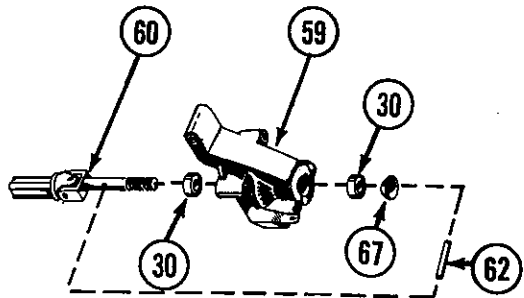

FIG. 26
14. Press two 3/16" x 3/8" bearings (30) into both sides of hub carrier (59). Fig. 26.
15. Slide rear axle (60) through the bearings in the hub carrier (59). Fig. 26.
16. Slide spacer washer (67) down axle (60) towards hub carrier (59) and secure axle (60) by inserting 1/16" x 7/16" solid pin (62) into hole in rear axle (60). Fig. 26.